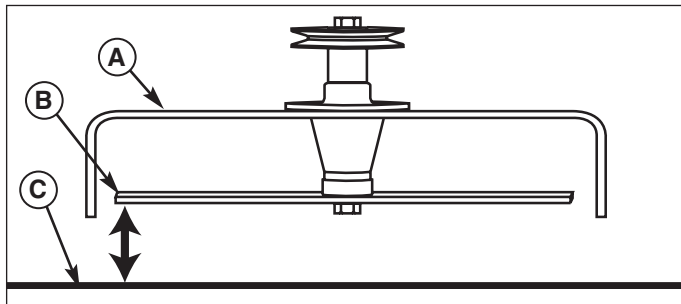

Figure 29. Measure Blade Tips to Ground
7. Measure the distance from the ground to the front tip of the center blade, and from the ground to rear tips of left-hand and right-hand blades (Figures 29 & 31). The front tip of the center blade should be 1/4" (6mm) higher than rear tips of left-hand and right-hand blades. If not, proceed with steps 8 - 11.